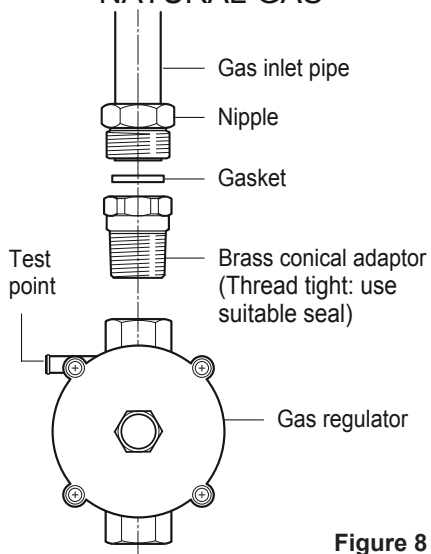

Figure 8
- For Natural Gas models the gas supply is connected to the pressure regulator which is supplied with the appliance (fig. 8). Adjust the regulator to obtain a test point pressure of 1 kPa with the two semi-rapid (SR) burners operating at maximum.